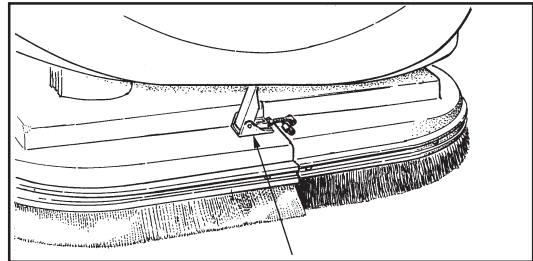

Figure 17A
- Unlatch right and left brush housings and remove them. See figure 17A.